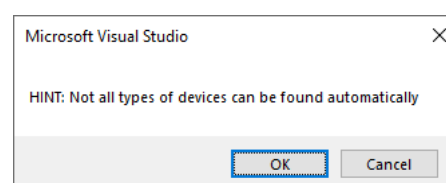

Fig. 6-23 Notice from TwinCAT when scanning for devices
2. A dialog will appear hinting that not all device types can be automatically detected (Fig. 6-23). Click **OK** to continue.